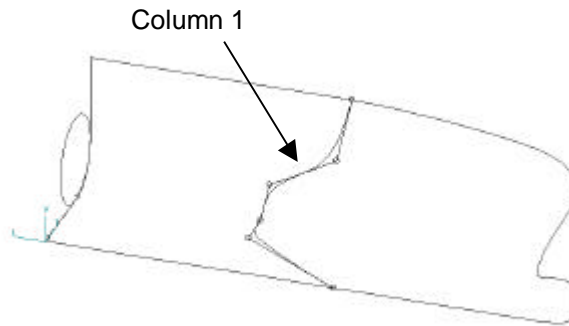

Figure 2-15: Editing Column 1 to define the Flat –of-Side.
6. In *Top* or *Side* views, move the vertices longitudinally (but not transversely or vertically) until they are at the correct location to define the forward end, or tangency, of the flat-of-side. Do not worry about getting the locations exact – you can move them again later. (See figure 2-15).